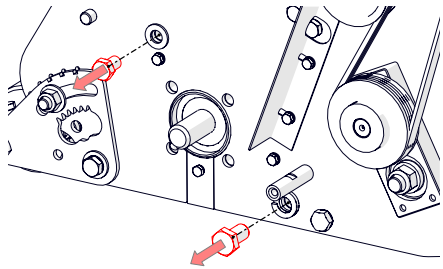
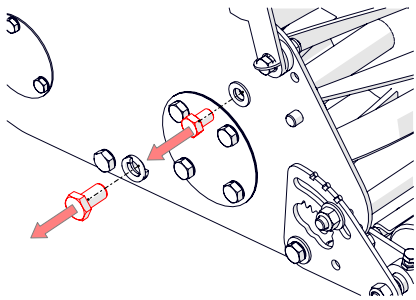
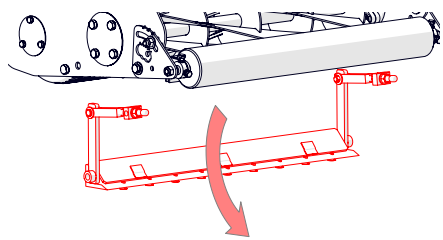

Fig. 15E - Remove LH shear blade hex screws.
Fig. 15F - Remove RH shear blade hex screws.
Fig. 15G - Remove shear blade from the machine.
8. Remove the top and bottom hex screws [3/4" spanner and 5/16" spanner] from each side securing the shear blade carrier (Fig. 15E & Fig. 15F). Support the shear blade carrier as it is lowered from the machine (Fig. 15G).